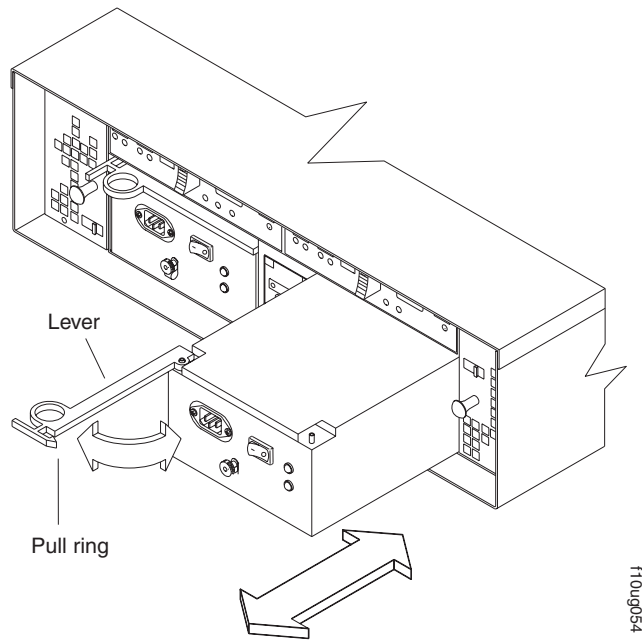

Figure 19. Replacing a power supply
1. Slide one power supply into the storage server. Be sure to replace the power supplies so that the lever on each power supply opens toward the interior of the storage server, as shown in Figure 19 on page 31.
**Attention:** Be sure that the lever is pulled straight out as you slide the power supply into the storage server, as shown in Figure 19 on page 31.